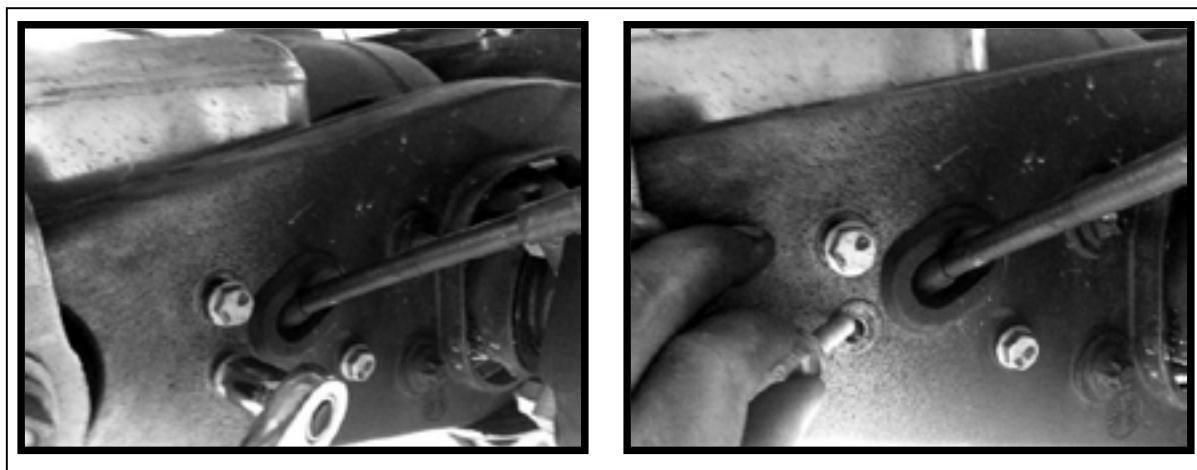

FIGURE 10-30
33.0 LOOSEN, AND REMOVE BOLTS FROM AIR RESEVOIR. (FIGURE 10-30)